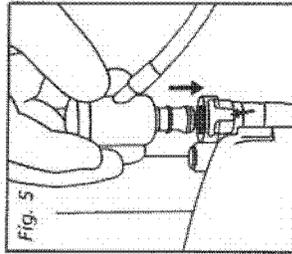

Fig. 5
2. Connect VSS-1 to the water inlet port on back of unit and make sure it locks into place (Fig. 5).